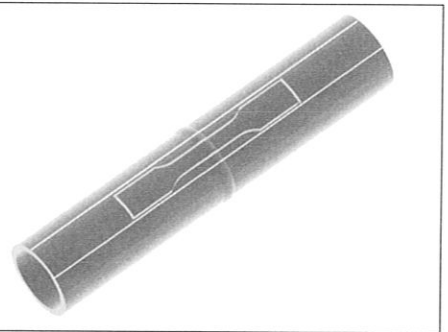

Figure 2. Schematic picture of one weld tensile test specimen taken in a tube. The lines show how the test specimen is to be extracted using sawing.
1. *Sawing* – To extract a rectangular section out of the plate or tube. To access the inner of the material, i.e. the welded area, sawing is needed. (See figure 2.)